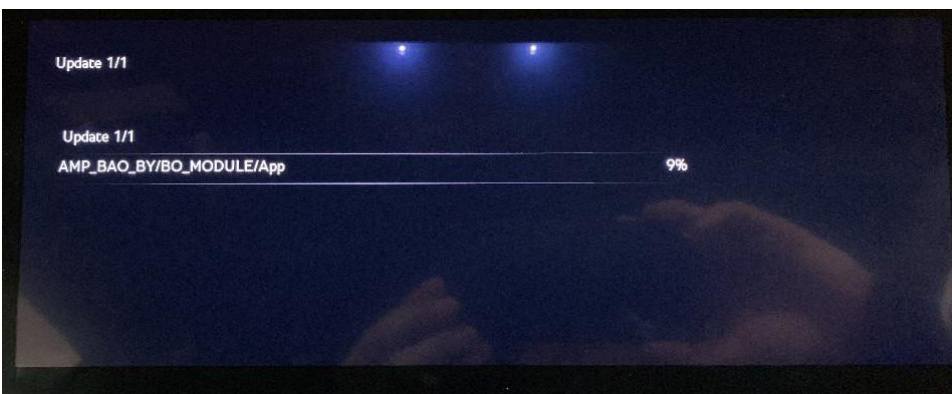

Figure 9
8. The software update will then begin (Figure 9).